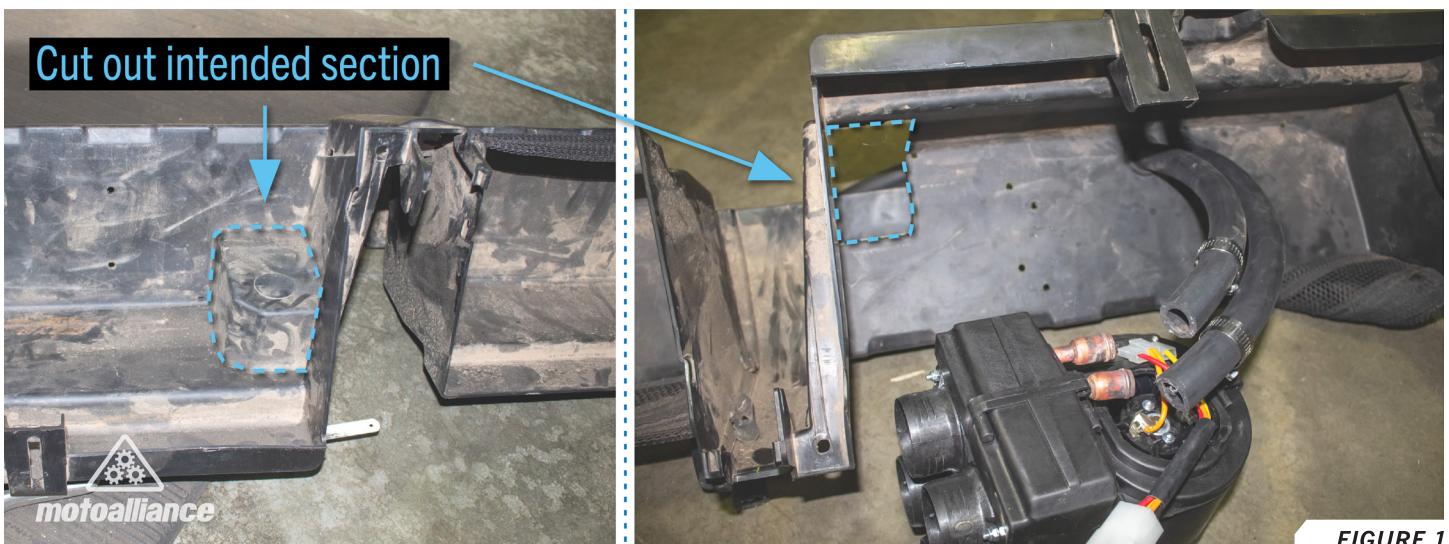

FIGURE 1
2. Cut out indented section on passenger side glove box. **FIGURE 1**